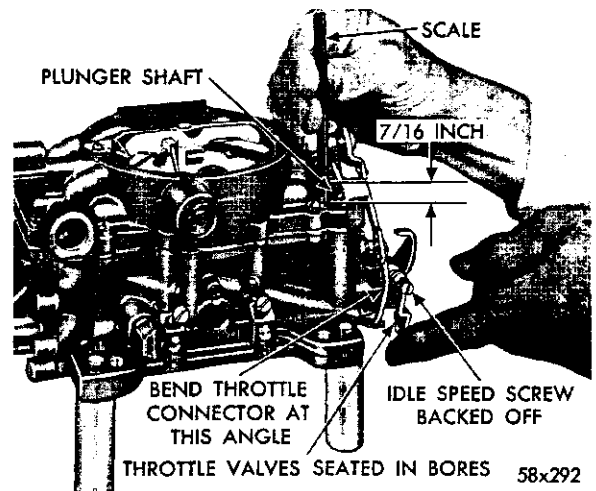

Fig. 16—Measuring the Accelerator Pump Travel
(1) Move the choke valve to wide open position, to release the fast idle cam. Back off the idle speed adjusting screw, (curb idle) until the throttle valves are seated in the bores.
(2) Measure the distance from the top of the air horn to the top of the plunger shaft, using a "T" scale as shown in Figure 16. This distance should be $\frac{7}{16}$ inch.
(3) If an adjustment is necessary, bend the throttle connector rod at the lower angle, using Tool T-109-213, until correct travel has been obtained.